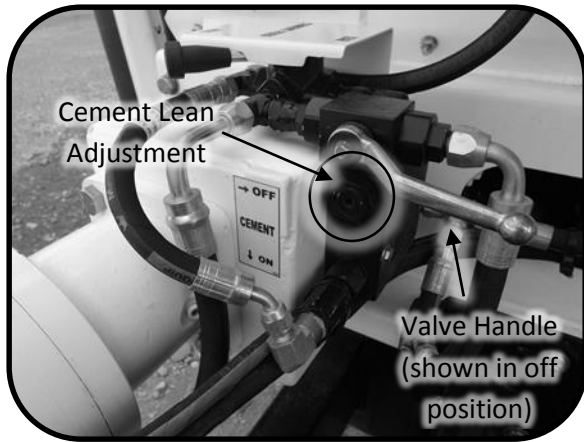

Figure 1. Cement Motor Control Valve
**IMPORTANT:** Lean adjustment should not be turned more than 1 ½ turns (counter clockwise) from the full IN position (see Figure 1) as seal damage will result.